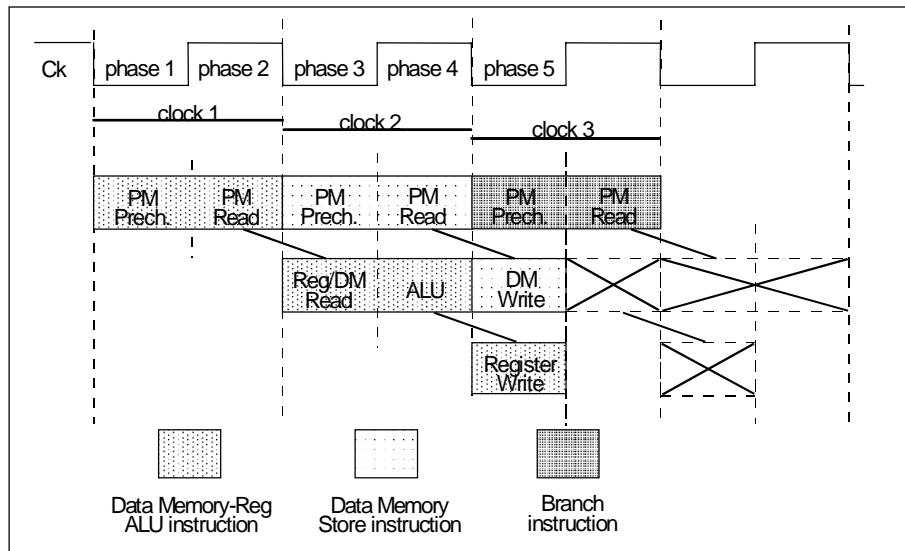

Figure 4.3: Pipeline execution of different instructions
The first instruction on Figure 4.3 is a typical ALU operation with a first operand in Data Memory (DM) and a second operand in a register. The result is stored in the destination register. During the first clock cycle, the Program Memory (PM) is pre-charged in the first phase and the instruction is read and is decoded in the second phase. During the second clock cycle, the register and the DM are read in phase 3 and the ALU operation is executed in phase 4. The last clock cycle contains only a single phase (phase 5) used to store the result in the destination register.
Figure 4.3 shows a Data Memory-reg ALU instruction followed by a DM store instruction. The first instruction stores its result in a register during phase 5 which is phase 3 of the DM store instruction. A bypass mechanism allows the DM store instruction to read the register that is written by the preceding ALU instruction. Such a mechanism does not require load delays.